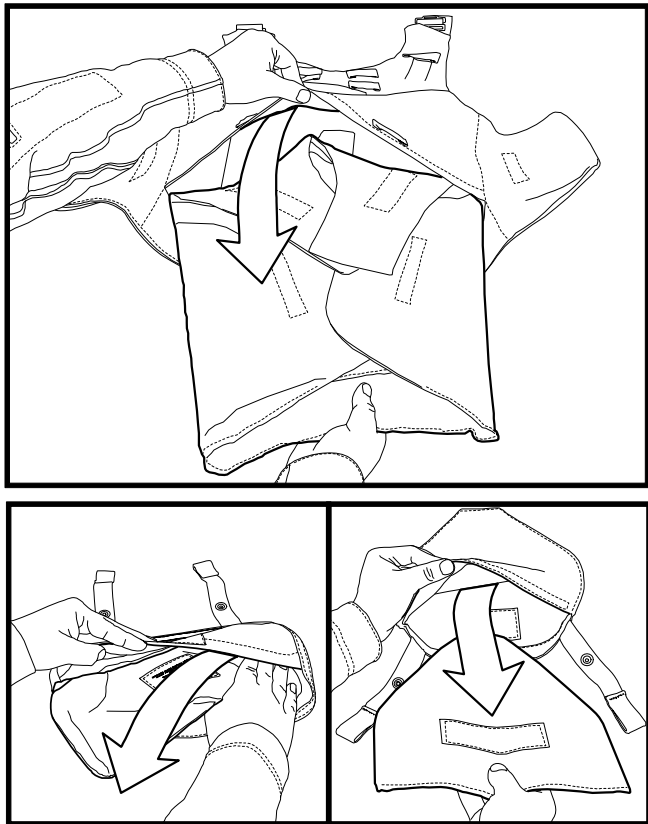

Figure 13. Removing Soft Ballistic Inserts.
- c. Remove the deltoid protectors, lower back protector and groin protector, if attached and remove ballistic inserts from each (Figure 13).